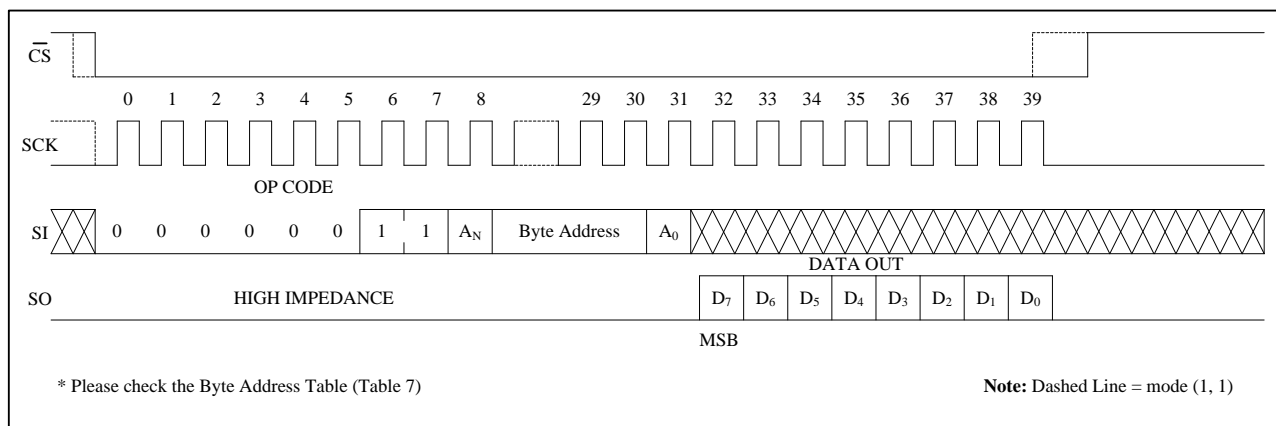

Figure 10
Read from Memory Array: To read from memory, the host sends a READ instruction followed by a 24-bit address (see Table 6 for the number of significant address bits). After receiving the last address bit, the BL25CM1A will respond by shifting out data on the SO pin (as shown in Figure 10). Sequentially stored data can be read out by simply continuing to run the clock. The internal address pointer is automatically incremented to the next higher address as data is shifted out. After reaching the highest memory address, the address counter “rolls over” to the lowest memory address, and the read cycle can be continued indefinitely. The read operation is terminated by taking \overline{CS} high.
The $\overline{\text{HOLD}}$ input can be used to pause communication between host and BL25CM1A. To pause, $\overline{\text{HOLD}}$ must be taken low while SCK is low (Figure 10). During the hold condition the device must remain selected ($\overline{\text{CS}}$ low). During the pause, the data output pin (SO) is tri-stated (high impedance) and SI transitions are ignored. To resume communication, $\overline{\text{HOLD}}$ must be taken high while SCK is low.